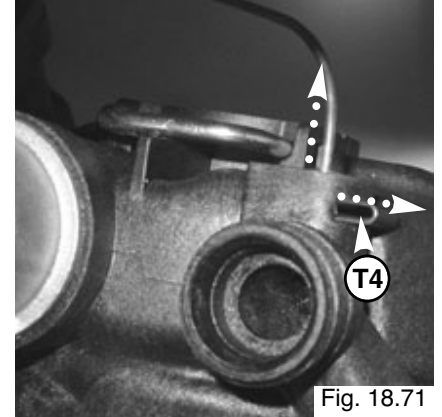

Fig. 18.71
6. Pull the pump toward you and remove the clip "T4" securing the pressure gauge (see Fig. 18.71);